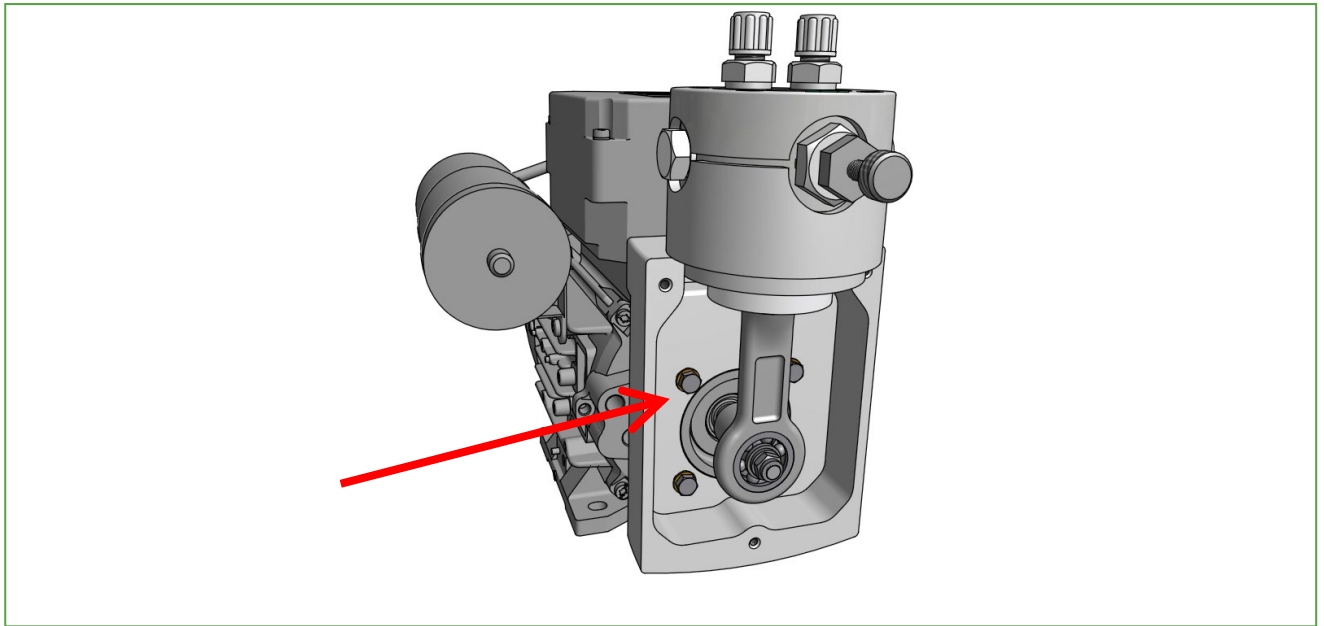

Figure 7 Rotating the pump head
- Unscrew and remove the four flange screws with the lock washers shown in Figure 7.